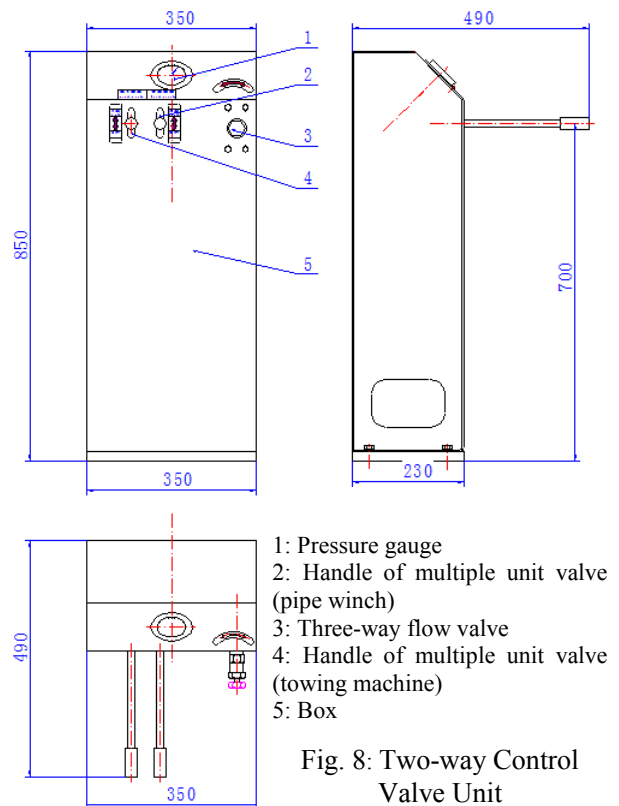

Fig. 8: Two-way Control Valve Unit
3.6.1 2-way console is used to control the forward and reverse rotation of towing machine and hydraulic winch. As shown in Fig. 8, there are multi-way reversing valve, pressure gauge (1) and 3-way flow valve installed inside the box (5); the positive or negative rotation of towing machine and hydraulic winch can be realized by pulling up or pushing down the operation handle (4) of towing machine or the operation handle (2) of hydraulic winch. When the output speed of towing machine and winch are too slow or too quick, the rotation speed can be adjusted by rotating flow control handle (3). The working pressure of auxiliary operating console can be adjusted by the overflow valve on control pump or the overflow valve of multi-way reversing valve; however, it must be lower than the pressure of the overflow valve of control pump.